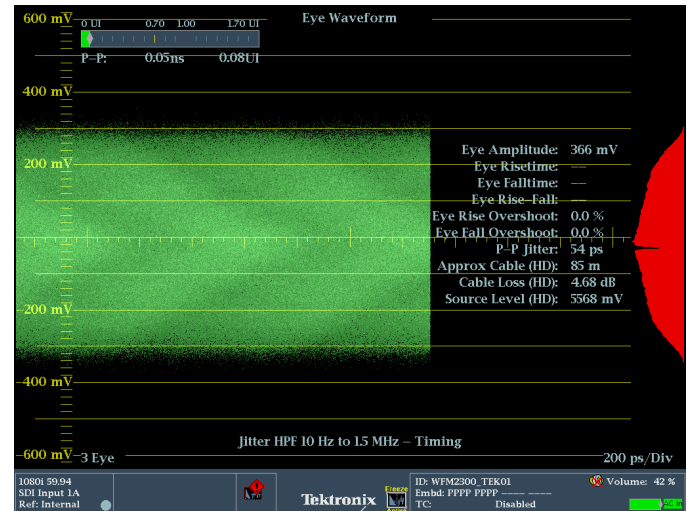

Figure 8b. Long length of cable.
Additional cable was added to the system as shown in Figure 8b and it becomes difficult to determine the rise and fall of the transitions, although the amplitude and jitter of the signal can be measured.
- The user should verify the status bar or video sessions display to confirm that the signal path is error free and no CRC errors are present, as is this case of Figure 8b.